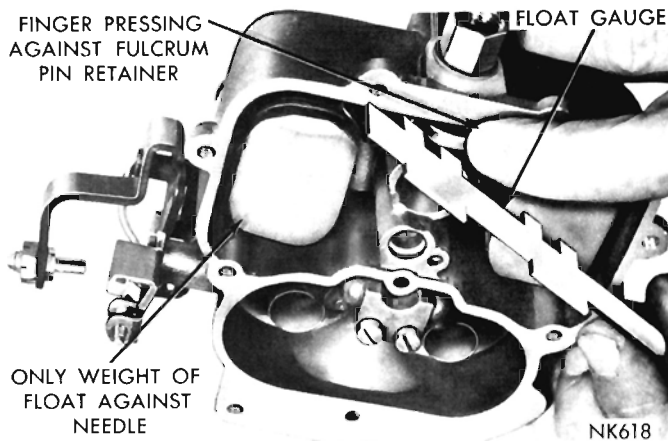

Fig. 8—Measuring the Float Setting
(1) To correctly set the float height when the carburetor is being overhauled, install the floats with the fulcrum pin and pin retainer in the main body.
(2) Install the rubber-tipped needle, seat and gasket in the body and tighten securely.
(3) Invert the main body so that the weight of the float only is forcing the needle against the seat. Hold finger against the retainer to fully seat the fulcrum pin.
(4) Using Tool T109-280 or a "T" scale, measure the float, as shown in (Fig. 8). There should be $\frac{5}{16}$ inch from the surface of the fuel bowl to the **crown of each float at the center**.